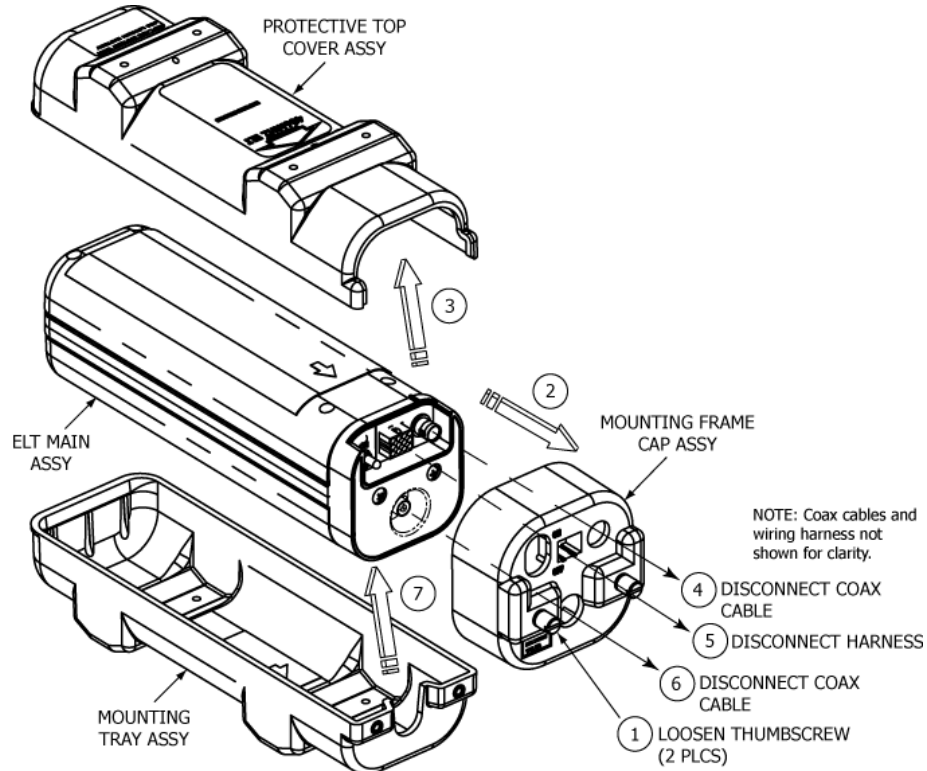

Figure 11 ELT Removal Sequence
- 1) See Figure 11 ELT Removal Sequence.